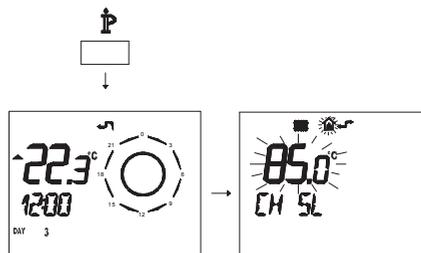

Fig. 8.12
- Press button P for more than 3 seconds to enter in **INFO** (Fig. 8.12) mode.